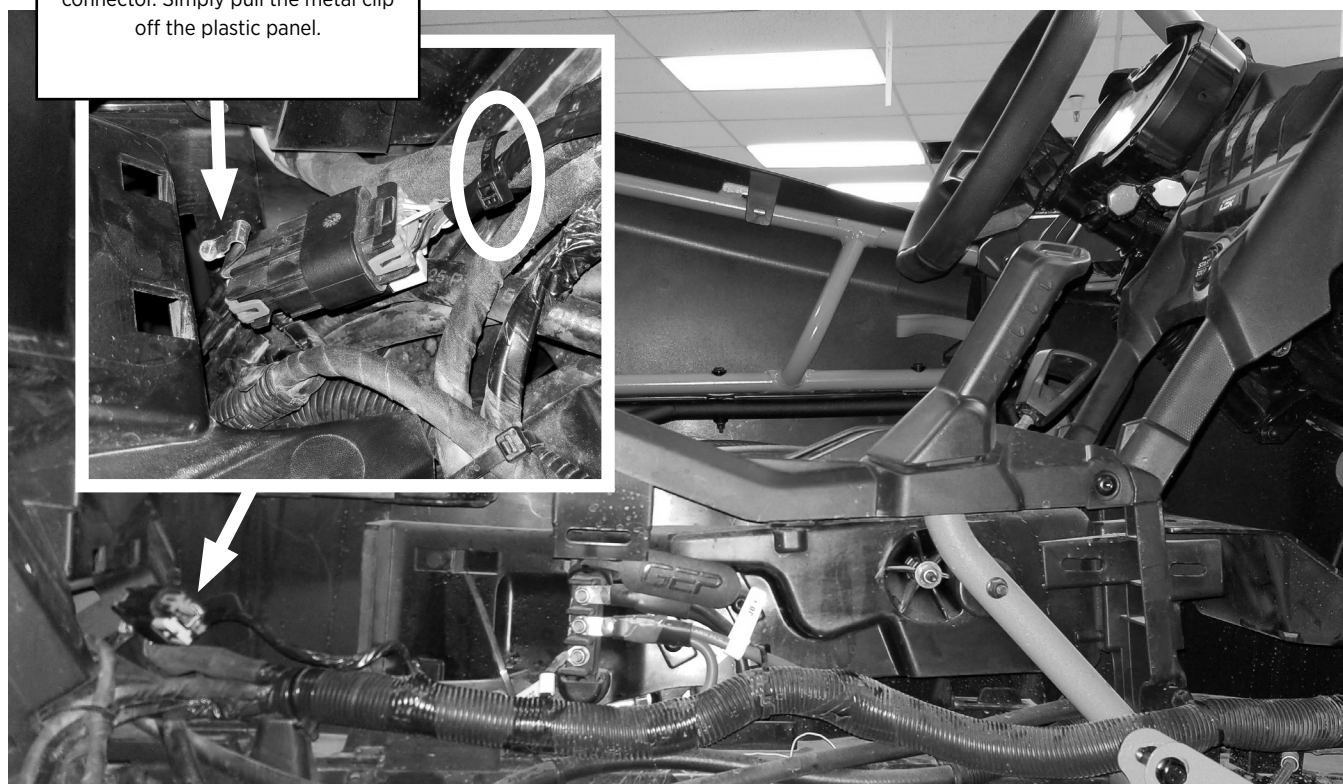

Figure 2c
5. Detach metal plug clip behind rear center console panel and secure it to the main OEM harness using one of the supplied cable ties (Figure 2c).